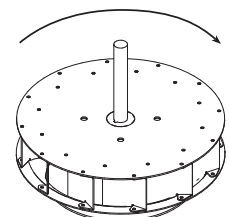

Figure 14
3. All CUE and CUBE units - Check wheel rotation (viewing from the shaft side) by momentarily energizing the unit. Rotation should correspond to the rotation decal on the unit, see *Figure 14*. If wheel rotation is incorrect, reverse two of the wiring leads or check motor wiring for single phase.
3. Start the fan and shut it off immediately to check rotation of the wheel with directional arrow in the motor compartment, *Reference Figure 14*.